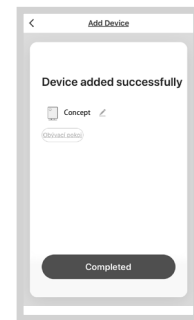
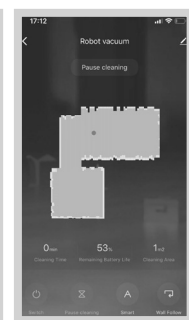

Fig. 11
Fig. 12
8. After successful set-up (Fig. 11), press “Completed” to enter the device control interface (Fig. 12).